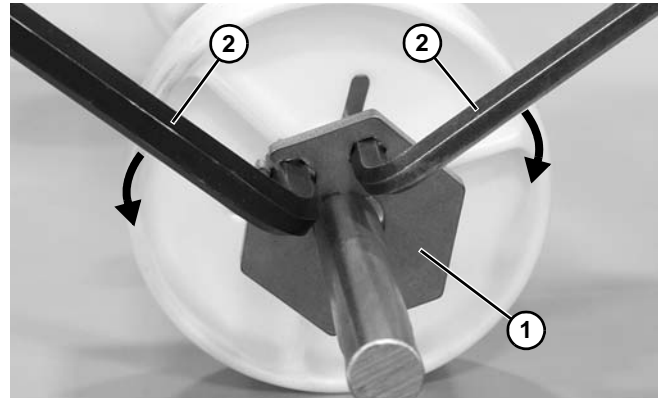

Figure 33
- c. To lock the retainer plate (Figure 33, item 1) in place, move the wrenches (Figure 33, item 2) away from each other.